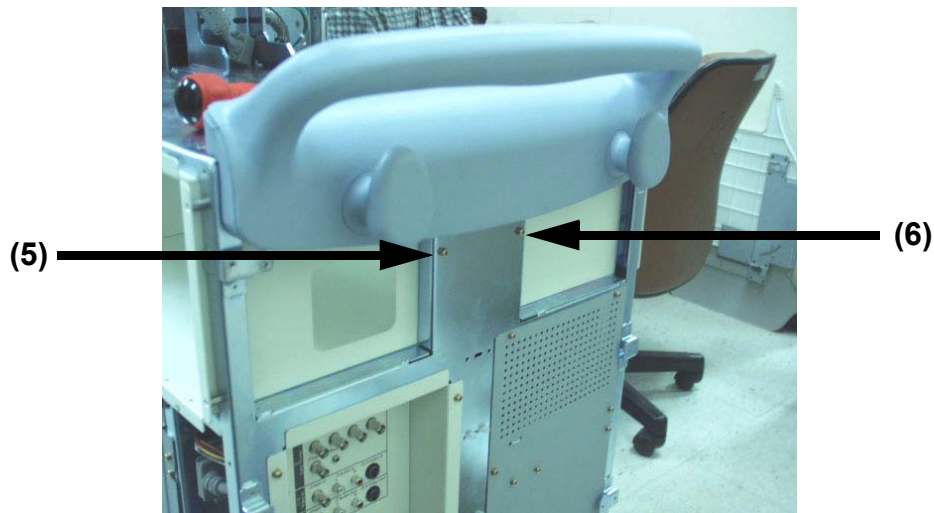

Figure 8-71 Unscrew two screws
- 6.) Unscrew two (2) screws (5-6) from the rear side of handle. Refer to Figure 8-71 on page 8-55 .